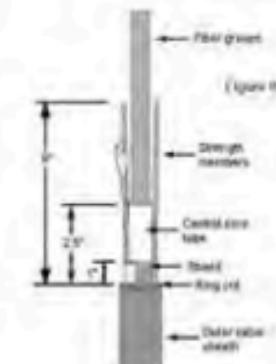

Figure 6
- 2 If dual strength members (e.g., LXG) or multiple metallic strength members (e.g., triplex) are present, expose each strength member and cut it off 2" from the ring cut. (Figure 6)
- If metal shield is present: Remove all but 1" of the metal shield. (Figure 6) Pre-open a 1" fall in the exposed metal shield where the shield overlaps. Strip the bond clamps onto the edge of the shield.